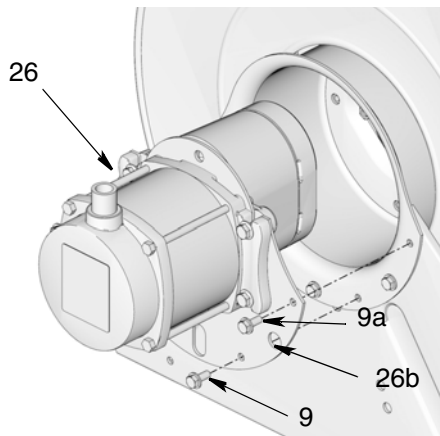

FIG. 46: Electric Motor Shown
- b. Insert shaft of motor module into power shaft (20). Rotate spool as needed to align shaft splines.
- c. Install 4 mounting bolts (9) finger tight only (FIG. 46).
- d. Support end of motor to align sheet metal mounting plate (26b) on motor module (26) to reel frame.